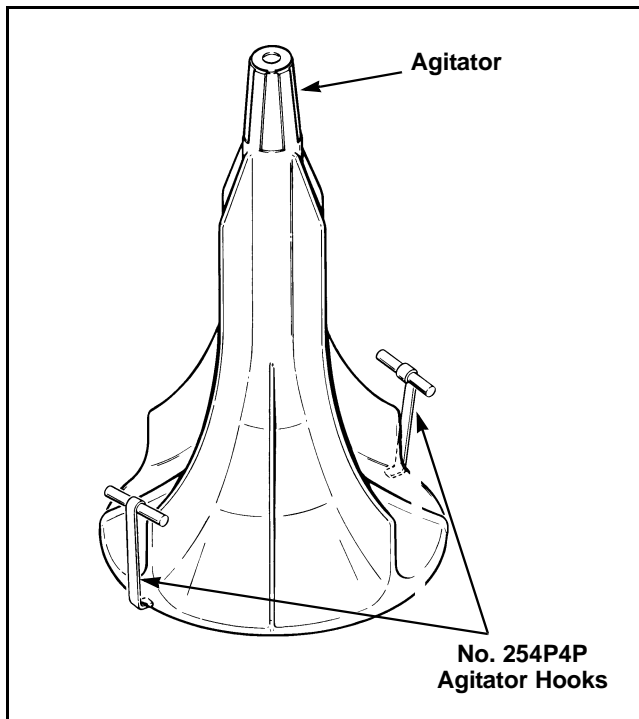

Figure 13
- b. To remove agitator by hand, place two agitator hooks, No. 254P4P, under bottom edge of agitator. Refer to *Figure 13*.